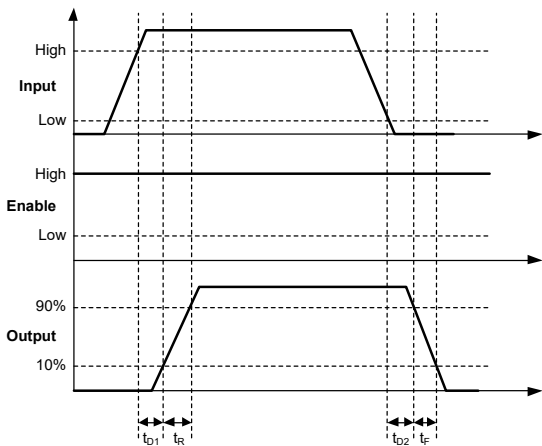

Figure 4. Non-Inverting Configuration
1. See timing diagrams as shown in Figure 4 through Figure 7.